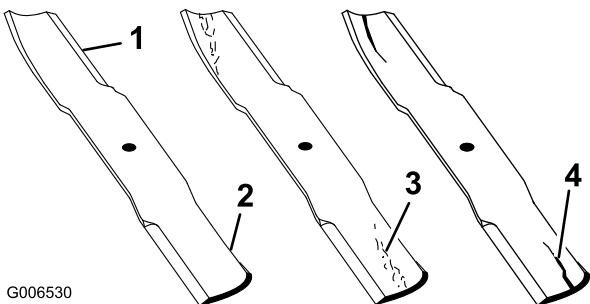

Figure 92
1. Inspect the cutting edges (Figure 92). If the edges are not sharp or have nicks, remove and sharpen the blades. Refer to Sharpening the Blades \(page 58\).
2. Inspect the blades, especially the curved area (Figure 92). If you notice any damage, wear, or a slot forming in this area (Figure 92), immediately install a new blade.